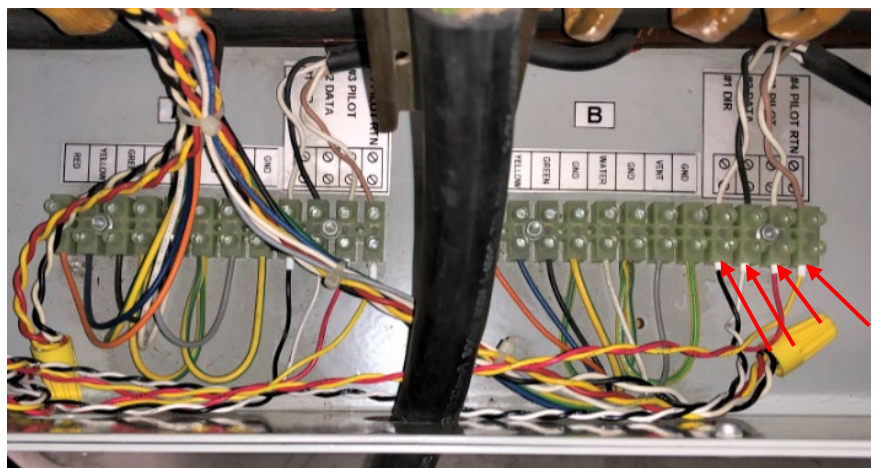

Figure 19 X1 Cable Connected to Channel B of TB1 for Communication Connections in DVS100/DVS150 Charger
- 4.4.7. Connect the X1 cable from the X1 connector on the CAN board to TB1 (of Channel B) in the DVS100/DVS150 charger (Figure 19), as listed below.
Twisting wires (Figure 19) is recommended for longer distances. Keeping them close together, however, is more important than twisting them.